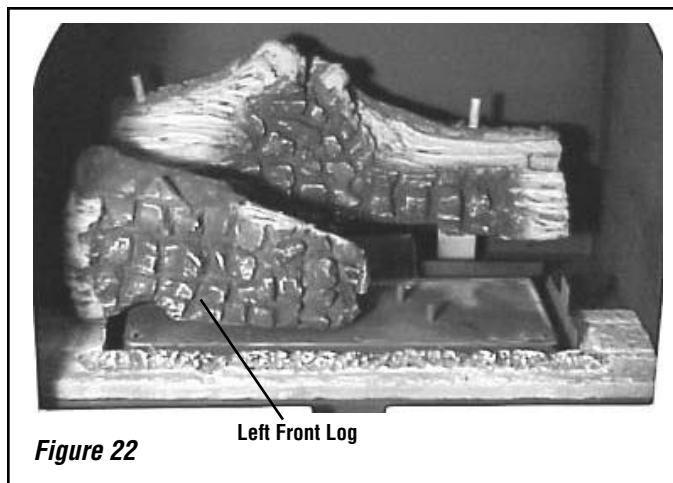

Figure 22
3. Place the left front log onto the corresponding burner pin and sub-floor left tab as shown in **Figure 22**.